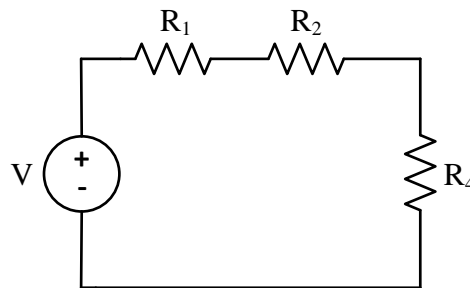

Figure 4. Voltage Divider with Three Series Resistors.
Remove resistors  $R_3$  and  $R_5$  from your circuit to create the circuit shown in Figure 4.
Measure and record the voltages across the three resistors shown in Figure 4. Be sure to record the polarities of the voltages.
4. Verify the voltage divider relation for the circuit shown in Figure 4.